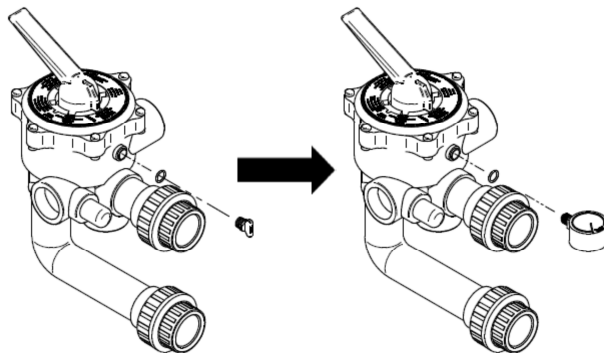

Fig. 19
5. Take off the multifunction *multifunctional valve cap*, apply some supplied teflon around the manometer thread and then screw the manometer with a key using no strength on the plastic box (Fig. 19).